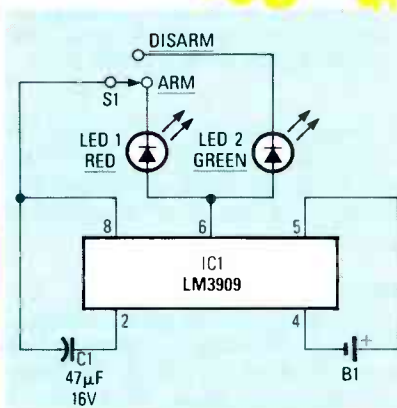

FIG. 1—IT'S NOT A REAL BURGLAR ALARM, but this "electronic scarecrow" can do almost as good a job as a real one when it comes to scaring away a burglar.
**FIG. 1—THE STUN GUN'S CIRCUIT** is a multi-stage voltage step-up circuit. The Q1/Q2 circuit produces a squarewave output of about 10 kHz, and Q3 produces 15- $\mu$ s discharge pulses at a rate of about 20 ppm. Those pulses fire SCR1, which induces a voltage in the windings of step-up transformers T2 and T3.
The schematic diagram of the stun gun is shown in Fig. 1. Basically, it's a multi-stage power supply arranged so that each succeeding stage multiplies the voltage produced by the preceding stage. The final stage of the circuit feeds two oppositely-phased transformers that produce extremely high voltage pulses. If that description sounds familiar, you've probably studied capacitive-discharge ignition systems—the stun gun works on the same principles.
The value of capacitor C2 affects the output of the stun gun. The greater the capacitance, the more energy that can be stored, so the more powerful the discharge will be. A larger capacitor gives bigger sparks, but requires more charging time, and that gives a lower discharge rate. On the other hand, a smaller capacitor gives smaller sparks, but a faster discharge rate. If you wish to experiment with different values for C2, try 3.9  $\mu$ F (as shown in Fig. 1), 7.8  $\mu$ F, and 1.95  $\mu$ F. Those values were arrived at by using one 3.9  $\mu$ F capacitor alone, two of the same capacitors in series, and two in parallel.
The schematic diagram of the circuit is shown in Fig. 1. The circuit is extremely simple and is built around an LM3909 LED flasher IC. With the value of C1 shown, the circuit will flash an LED at a rate of 5.5 times-per-second. It is powered by an alkaline "C"-size cell; estimated battery life is 15 months.
often specified in hertz, but that sometimes it is specified in *meters*. Meters are a unit of distance, as you might expect. What is being measured is the *wavelength* of the signal. A wavelength is the distance from one point on one cycle to the corresponding point on the next. See Fig. 1. On the other hand, the hertz (abbreviated Hz) is a unit of *frequency*. It indicates how many cycles occur in one second. One hertz is equal to one cycle-per-second.
FIG. 1—THE WAVELENGTH AND FREQUENCY of a wave are related through  $f = c/\lambda$ . Therefore a wave with a frequency of one cycle-per-second (1 hertz) would have a wavelength of 300,000 kilometers.